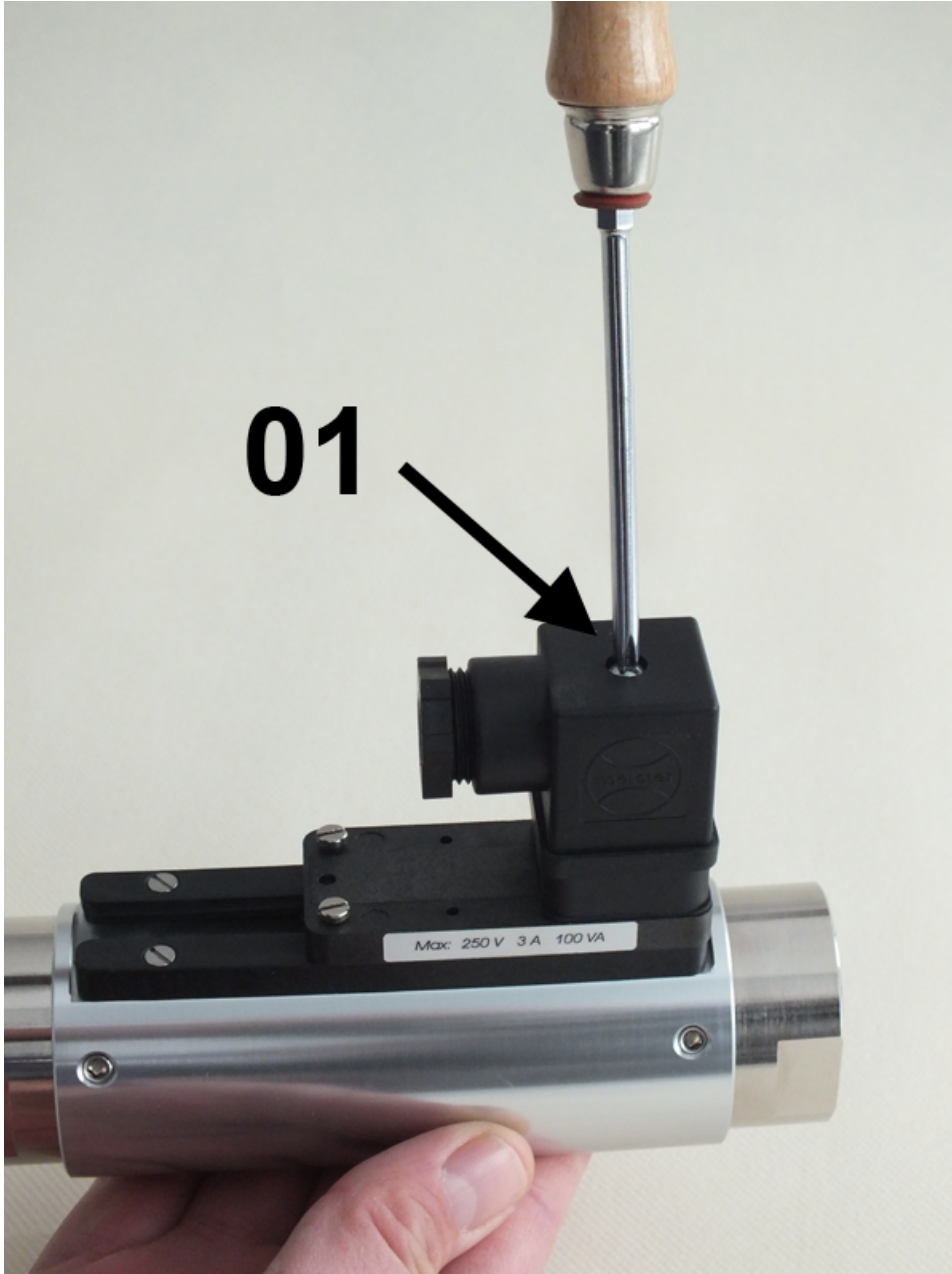

Fig. 59: Loosen female socket
1. → Loosen the fixing screw of the female socket (*Fig. 59/1*) with a flat-bladed screwdriver.